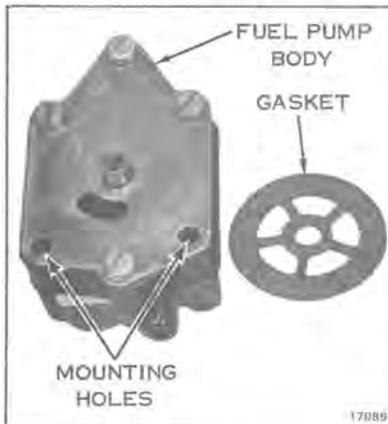
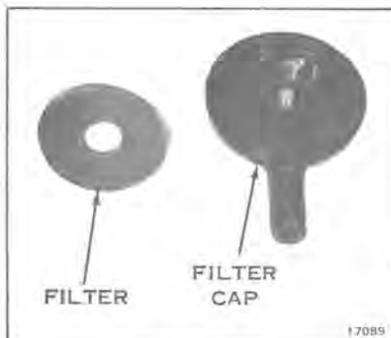

Figure 6-8
Figure 6-9
- b. Remove two screws attaching pump and filter assembly to mounting plate (see Figure 6-8), and remove pump and filter assembly. NOTE: Filter assembly may be removed for cleaning and inspection without removing pump assembly by removing filter cap screw (see Figure 6-9).